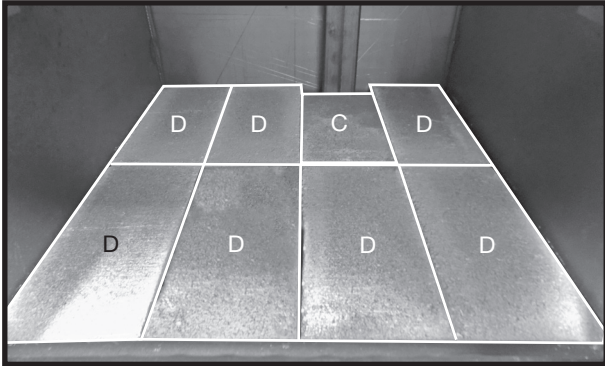
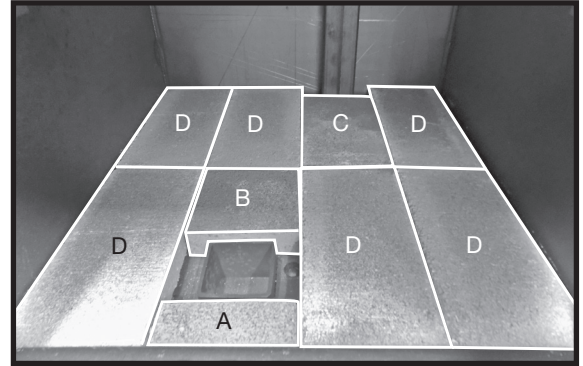

Figure 19: Floor layout without ash dump.
Figure 20: Firebricks on floor .
1. Install the floor firebricks; For units **without an Ash Dump** use full size "D" bricks See "Figure 19: Floor layout without ash dump." on page 24. For unit **with the Ash Dump** installed, 2 small bricks ("A & B" in Fig 20 ) will be used on either end of the ash dump in addition to the regular sized "D" bricks used in the rest of the installation.